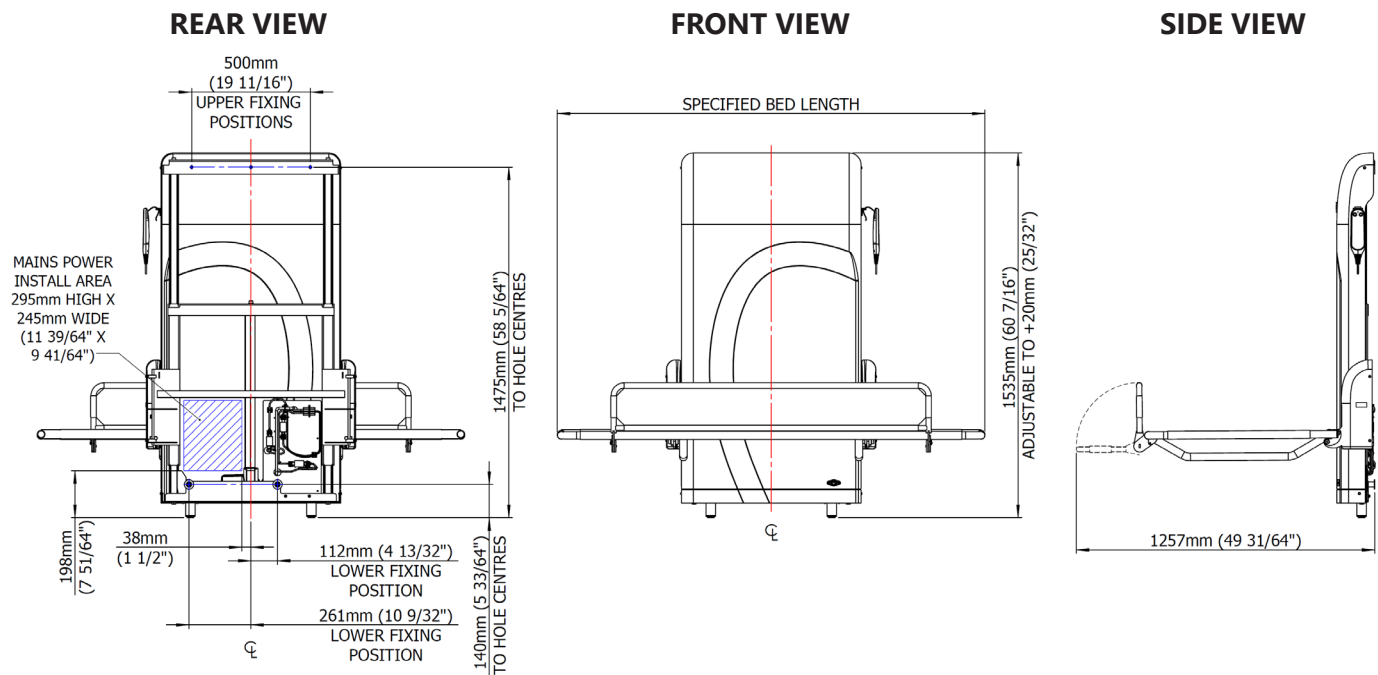

Fig 1.
- Ensure the horizontal cross members are not located at the same height as the changing station's fittings, as shown in Fig 1, in order to avoid a future installation problem.
- The mains power cord should be fitted within the area specified in Fig 1. It is recommended to fit a suitable waterproof flex outlet cover/faceplate. This must be fitted sub-flush to the wall and within the install area shown. The maximum dimensions for a surface mounted outlet are 92mm (3 5/8") tall, 107mm (4 7/32") wide and 50mm (2") deep.